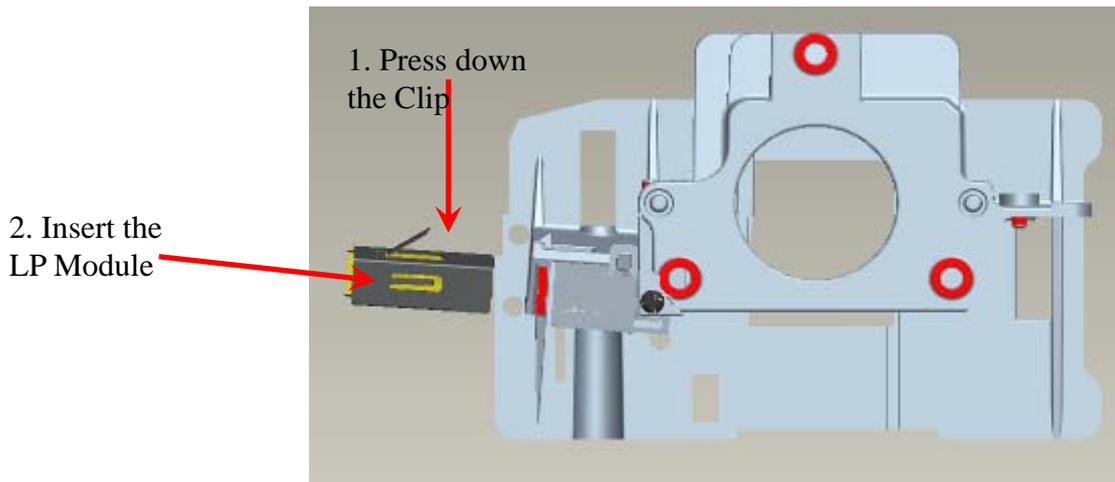

Fig. 4-6
- iii. Press CLIP of BKT_LP first, and then push it into the hole (Fig. 4-6).